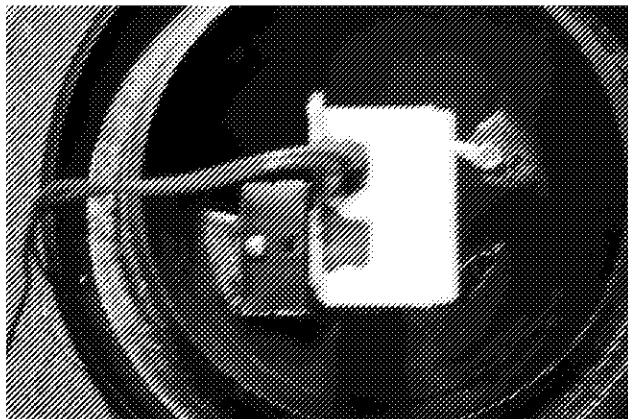

Figure 4
6. Secure LED Driver / Bracket assembly to inside of the Pole Fitter Housing. Secure the ground wire to the other side of the Pole Fitter Housing with Ground Screw. (See figure 4).